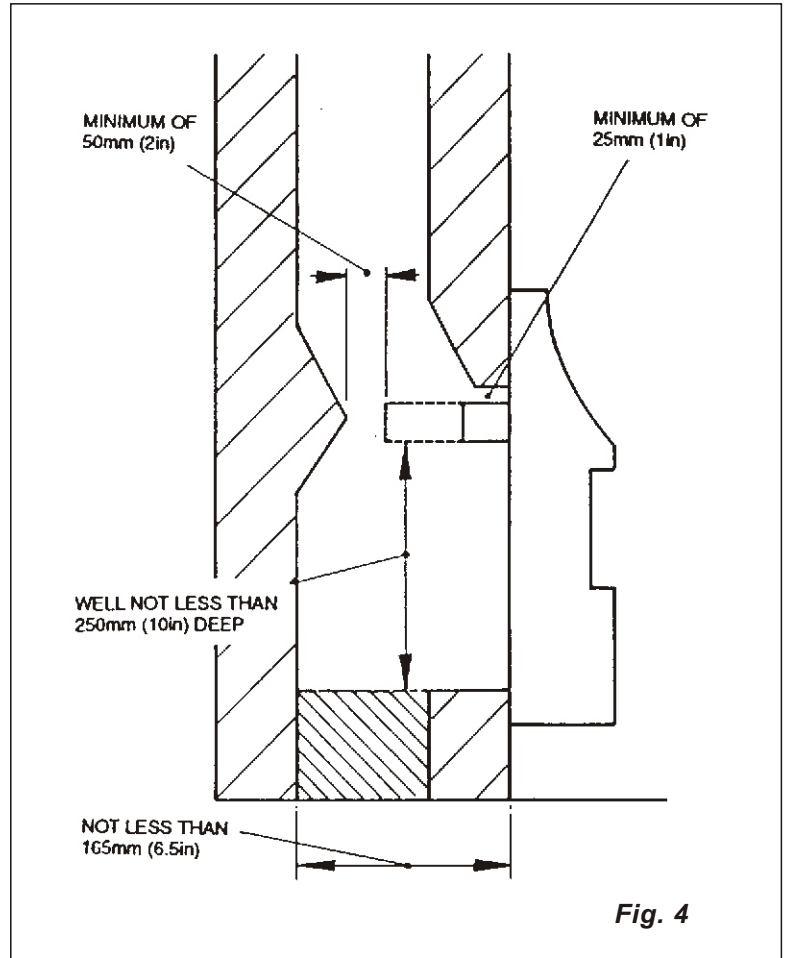

Fig. 4
2.2.1. Fireplace Dimensions (Fig. 4)
- (d) The top of the spigot opening in the closure plate (See Fig. 4) must be at least 25mm (1 in) below the top edge of the fire place opening.